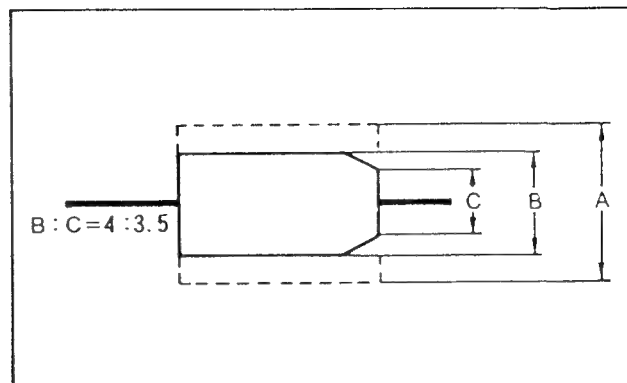

Fig. III-58
- (5) Slightly turn the No. 6 guide clockwise so that $B:C = 4:3.5$. (See Fig. III-58.)